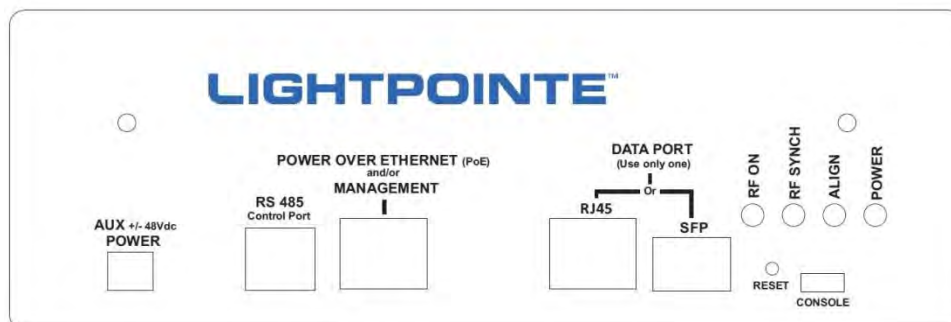

Figure 3-2: AireLink™80 User panel
A detailed drawing of the user panel is shown in Figure 3-2. Besides the RSSI connector that is located at the outside of the enclosure, the user panel has all required networking, power and service connections to install the system. It incorporates also several status LEDs to visually monitor the system operational status. Table 3-1 has a listing of power/networking connectors and status LEDs.
Step 1	<p>Connect the AireLink Management and PoE Port to the Output of the PoE Injector using a straight-through Cat5E cable. Plug the PoE Injector into a 110 or 240VAC outlet. The AireLink system will now power up and initialize. Depending on the software load this process can take up to 2 minutes.</p> <p> The boot process is completed when the Power LED on the back panel (see Figure 3-2) stops blinking and is solid green.</p>